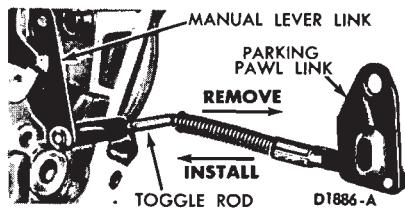

FIG. 54—Removing or Installing Parking Pawl Link
3. From the back of the transmission case, remove the parking pawl link, toggle rod, and manual lever link as an assembly (Fig. 54).
10. From the back of the transmission case, install the parking toggle rod and link assembly into the case (Fig. 54).